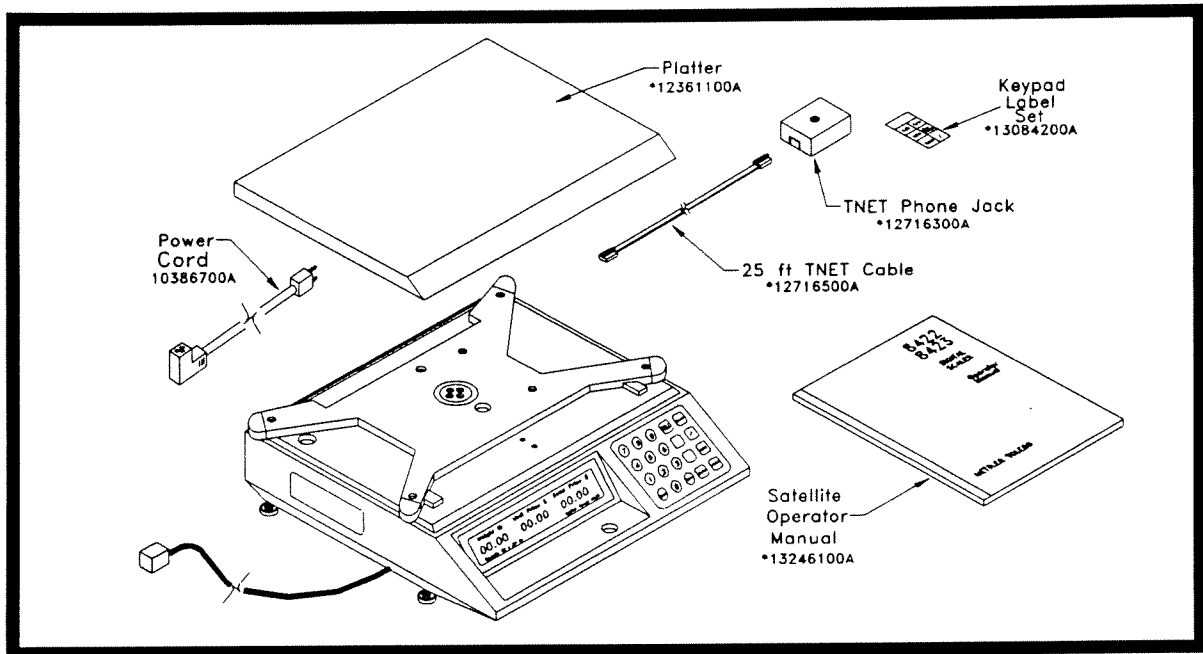

Figure 2.1 8422 Satellite and Accessories
- 2.1.1 Unpack the 8422 or 8423 and inspect for visual damage. Report any shipping damage to your carrier immediately. Unpack all accessories. Refer to Figure 2.1 through 2.4 for detail of accessories packed with each unit.